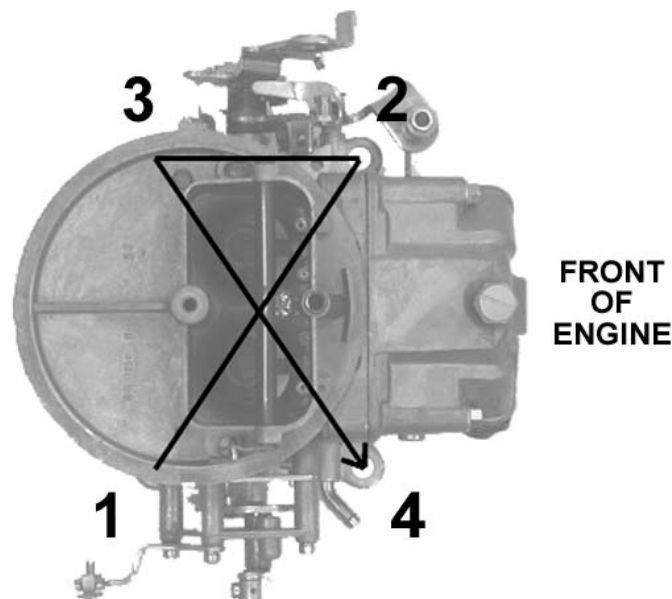

Figure 5—Carburetor torque sequence
3. Place the carburetor on top of the flange gasket on the manifold. Install the hold down nuts and snug down progressively in a "crisscross" pattern (60-80 in./lbs.), as shown in Figure 5.